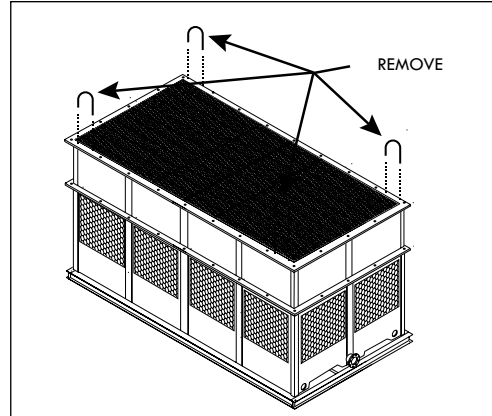

Figure A-19: Removing U-bolts from Lower Body section for a Two Fan Tower (RT-D or RTP-D)
- K.** After the Lower Body section has been set in place, remove the U-bolts located on the flange before installing the Upper Body section (see Figure A-19).